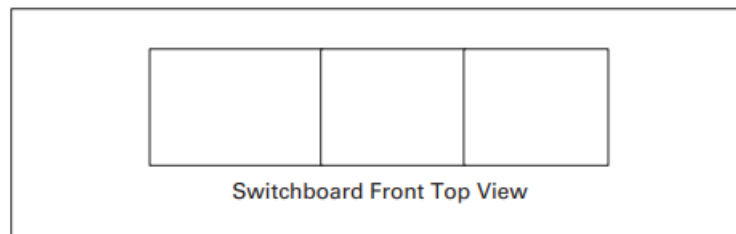

Figure 7. Example of front and rear aligned Switchboard
- Refer to the manufacturer's switchboard drawings for available conduit area in each section before installing the finished grade flooring. (See Figure 7.) Conduits must be installed in conduit area shown to ensure compliance with CEC wire bending space requirements.
- The alignment of multi-section switchboards is designed to be front and rear-aligned or rear (only) aligned. Drawings provided by the manufacturer and located in the switchboard will show footprint details. Orientation, as shown on the drawings, must be maintained. (See Figures 7 and 8.)